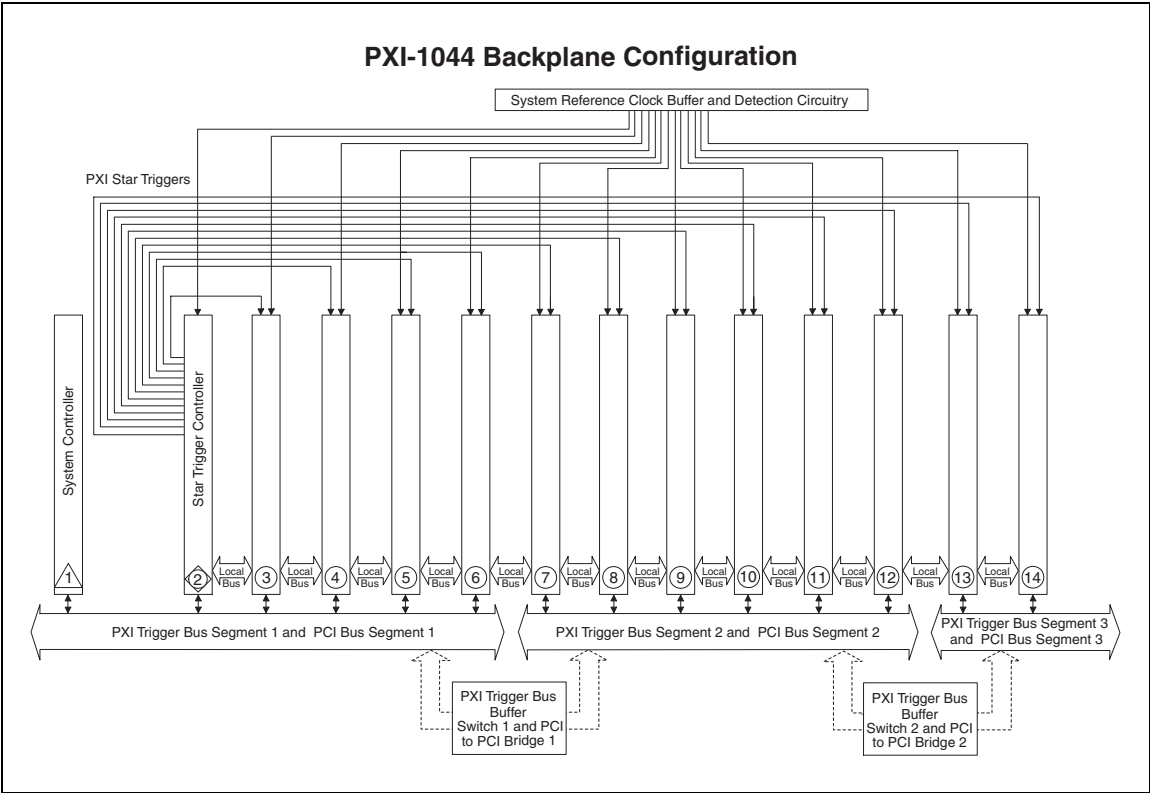

Figure 1-3. PXI CLK_10 and Star Trigger Routing
The star trigger (ST) slot is slot 2. This slot has dedicated equal-length trigger lines between slot 2 and peripheral slots 3 through 14 (refer to Figure 1-3). Slot 2 is intended for modules with ST functionality that can provide individual triggers to all other peripheral modules. However, if you do not require advanced trigger functionality, you can install any standard peripheral module in this slot.
The PXI backplane local bus is a daisy-chained bus that connects each peripheral slot with adjacent peripheral slots to the left and right (refer to Figure 1-3). For example, the right local bus of slot 2 connects to the left local bus of slot 3, and so on.